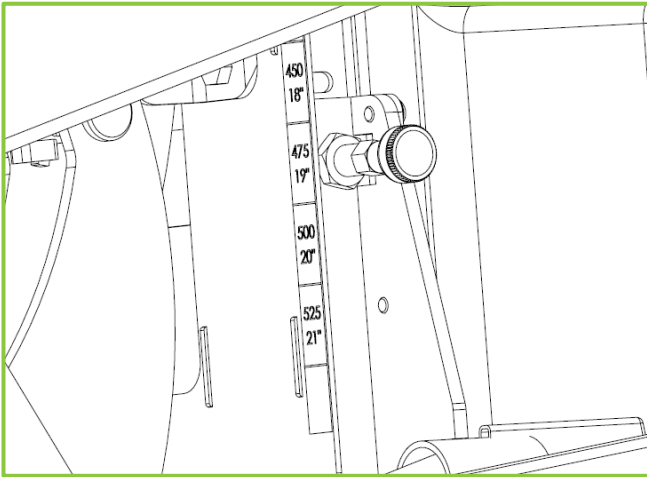

Figure 16
4. Pull and hold the caps of the two plungers to release the footplate height frame and move the footplate to the desired height measurement. The footplate height measurement can be read off the scale located at the rear of the legrest (Fig 16).